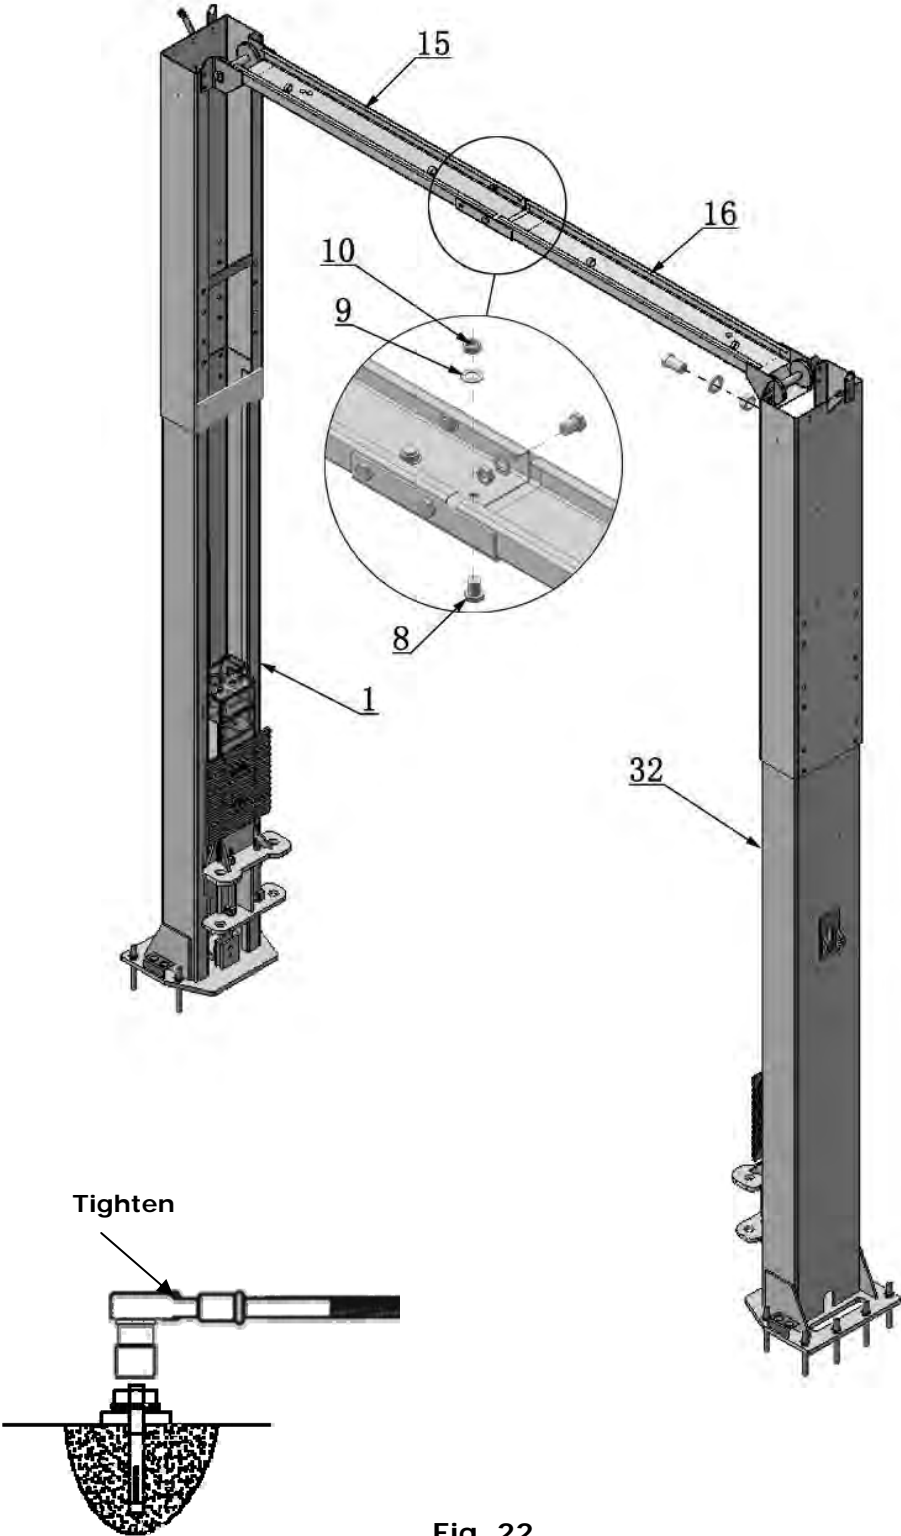

Fig. 22
2. Assemble overhead top beam, tighten the columns anchor bolts (See Fig. 22).